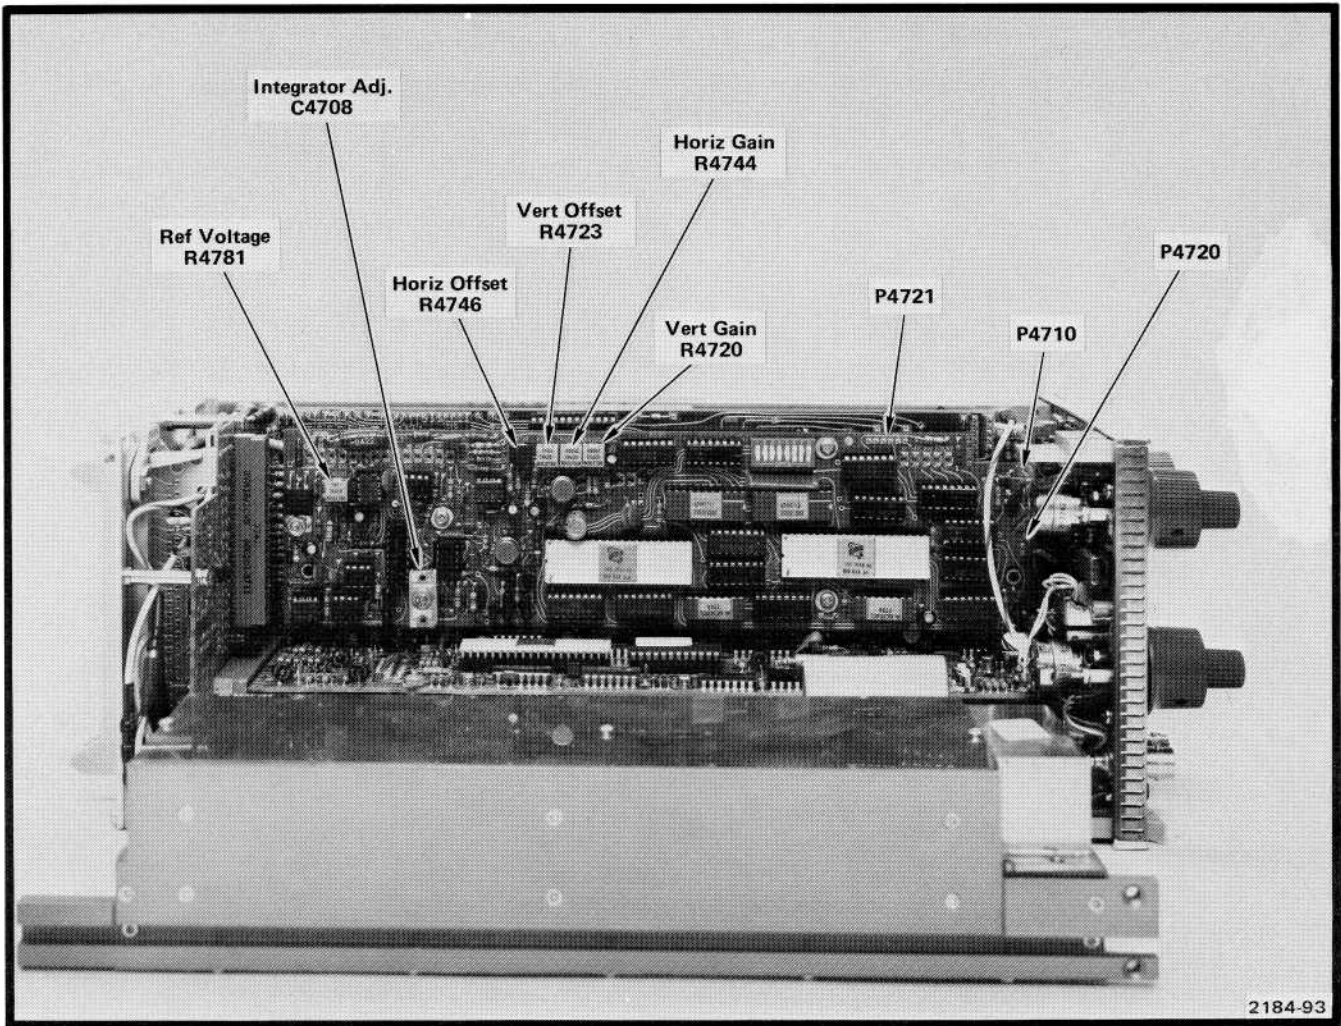

Fig. 4-21. Digital Storage 670-5671-00 test points and adjustments.
c. Connect a digital voltmeter (DVM) between TP 4760 (Fig. 4-21) and chassis ground. Using the DVM, set the reference voltage level to  $-2\text{ V} \pm 10\text{ mV}$  with adjustment R4781 (Fig. 4-21).